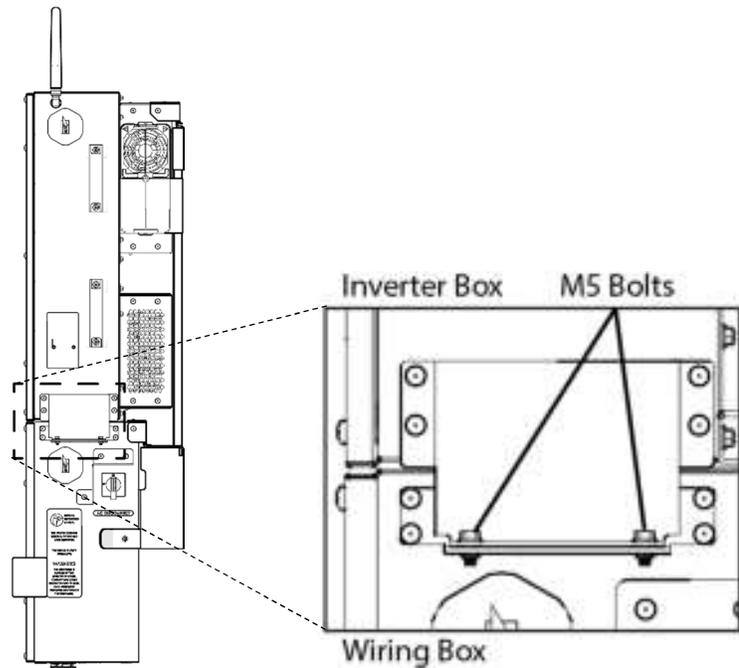

Figure 3-10 M5 Connecting Bolts (Right Side Shown)
Use four (4) M5 x 0.8, 16mm bolts and four (4) M5 x 0.8, nuts to secure the Power Head to the Wire Box as shown in Figure 3-10. Insert bolts from the top and nuts from the bottom of the bracket. Use two (2) screw/nut assemblies on each side of the inverter. Using an 8 mm socket and wrench, torque to 20 in-lbs. (2.3 N-m).